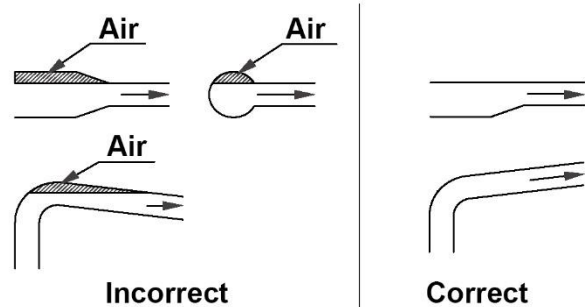

Figure 3
9. Avoid airlocks when installing the inlet pipe. Refer to **Figure 3**.